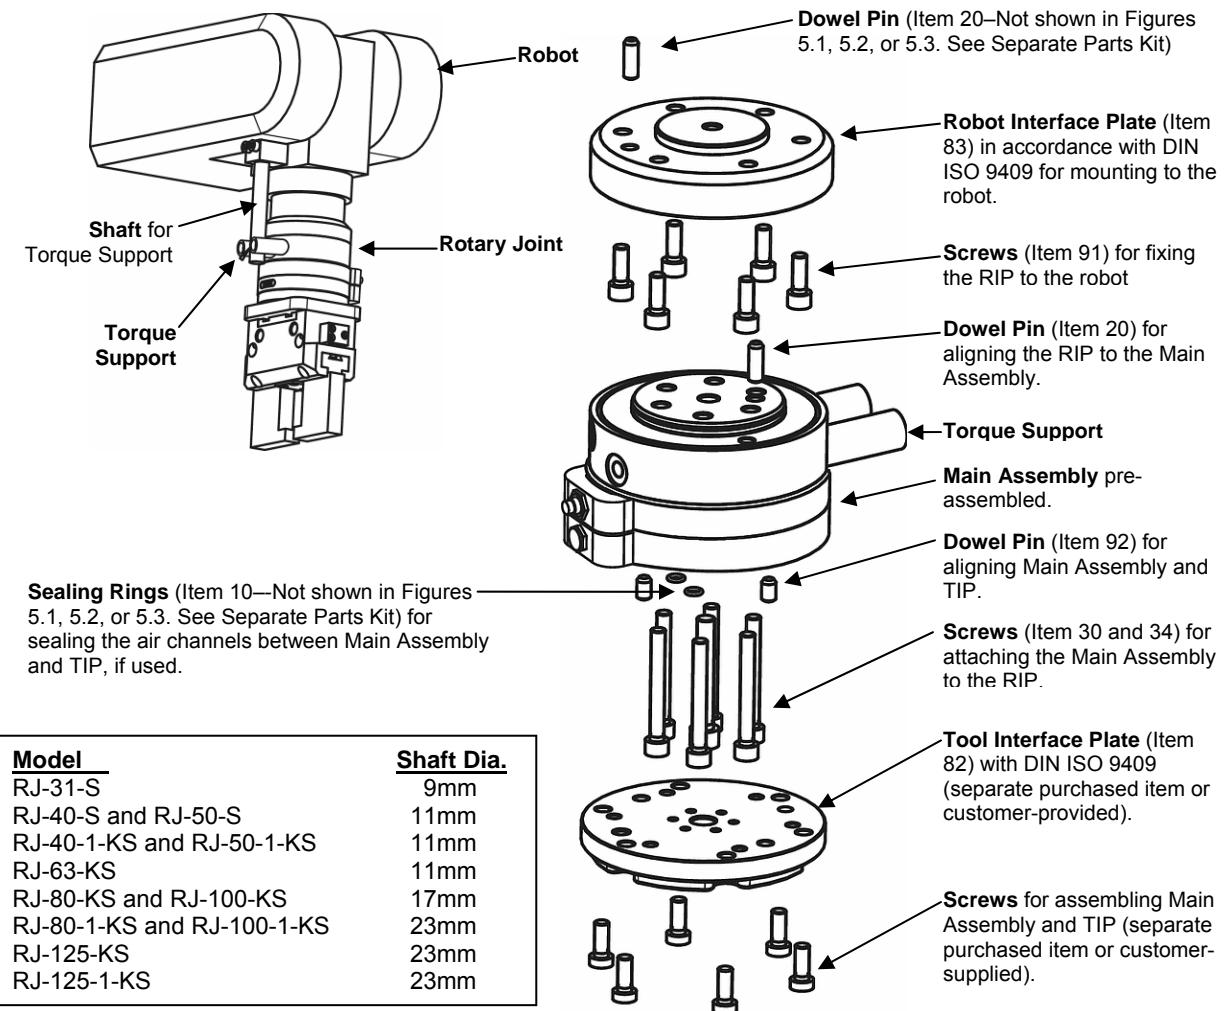

Figure 3.2—Assembling the RJ
(Item numbers are shown in the assembly drawings, Figures 3.2, 5.1, 5.2, and 5.3.)
6. Insert cylindrical pins (Item 92—Figure 3.2 only. See Separate Parts Kit) into the main body assembly.
- If making a tubeless air connection on the downside of the RJ, the interface plate must have a recess for the o-rings (Item 10—Figure 3.2 only. See Separate Parts Kit).
3. If used, remove the seals (Item 10—Figure 3.2 only. See Separate Parts Kits).